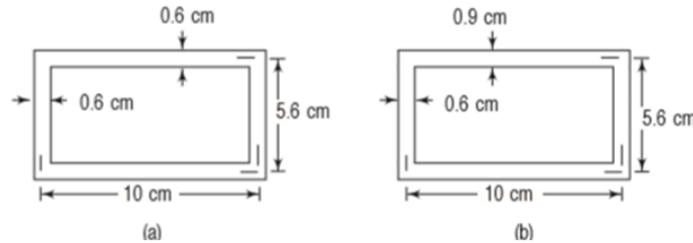

Figure 8
- (b) A hollow aluminium section is designed, as shown in Figure 8 [7M]